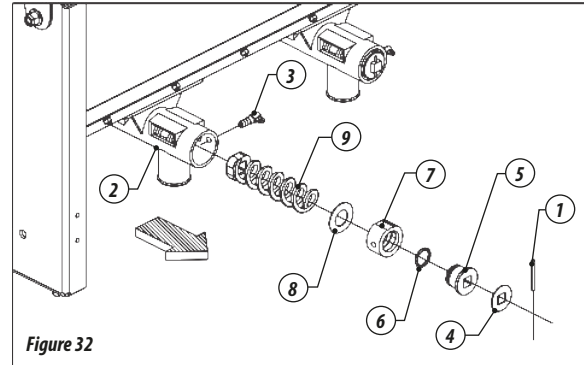

Figure 32
- 02 - Remove the exhible pin (1) from the back of the distributor gun (2). Then, loosen the screw (3), remove the washer (4), bushing (5) ring (6), bushing (7), washer (8) and nally the spring (9) pulling back, as shown in Figure 32.